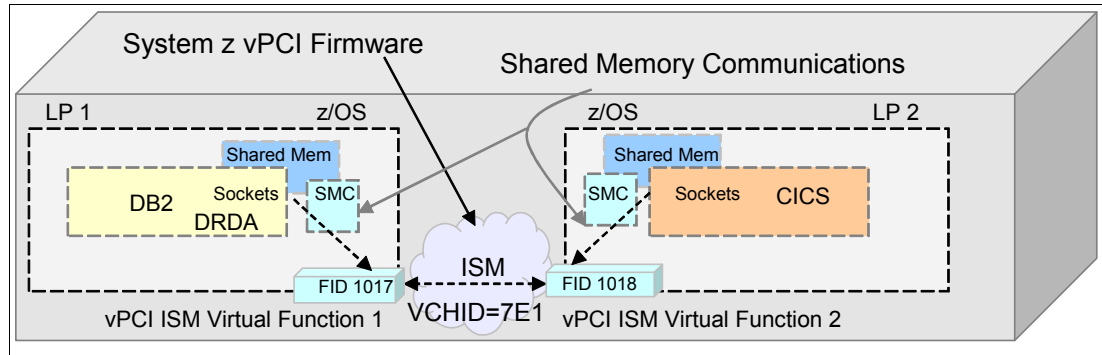

Figure D-17 ISM adapters that are shared between LPARs
The IOCP FUNCTION statements (see Example D-1) describe the configuration that defines ISM adapters that are shared between LPARs on the same CPC, as shown in Figure D-17.
**Note:** On the IOCDs statement, the VCHID is defined as 7E1. As shown in Figure D-17, the ISM network “PNET 1” is referenced by the IOCDs VCHID statement. ISM (as with IQD) does not use physical cards or card slots (PCHID). Instead, only logical (firmware) instances that are defined as VCHIDs in IOCDs are used.